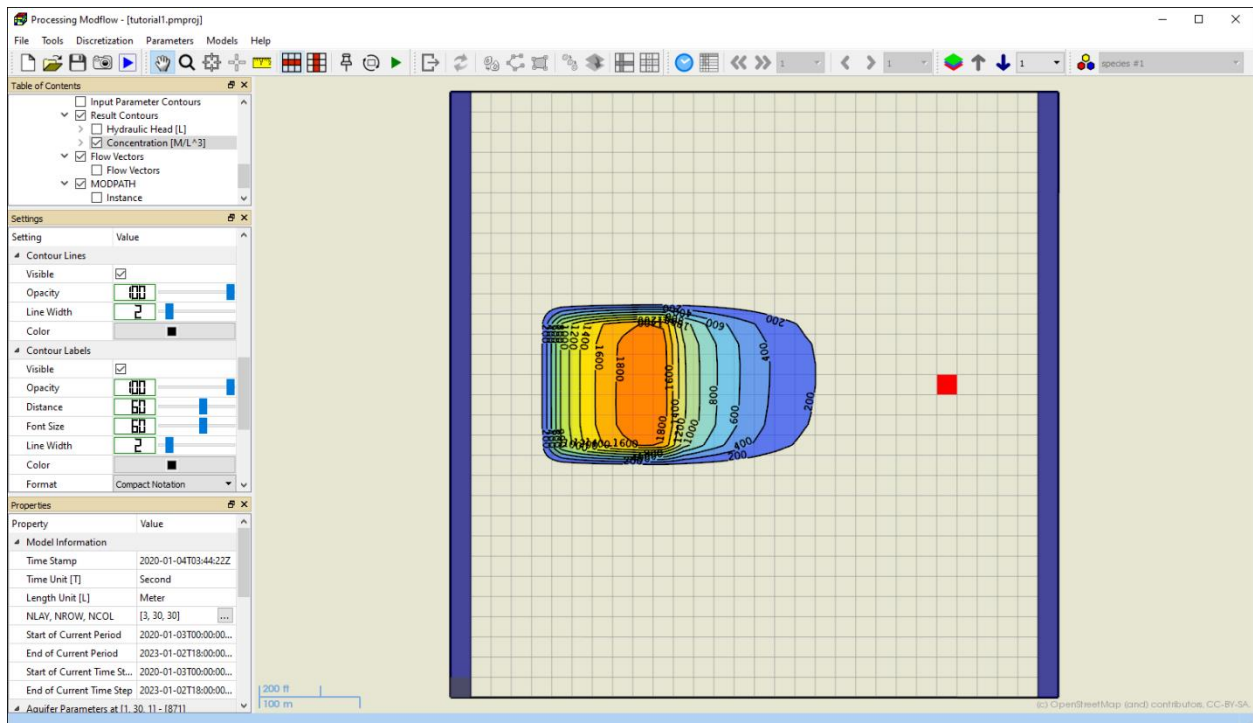

Figure 26. Color-filled concentration contours
- You may adjust the display of the newly added item by using its Settings window. For example, Figure 26 shows the color-filled contours with a larger font size for contour labels and modified contour levels. See User Guide of PM for details about the available settings. Note that you can uncheck the previously created items in the Visualization group on the TOC to hide them.